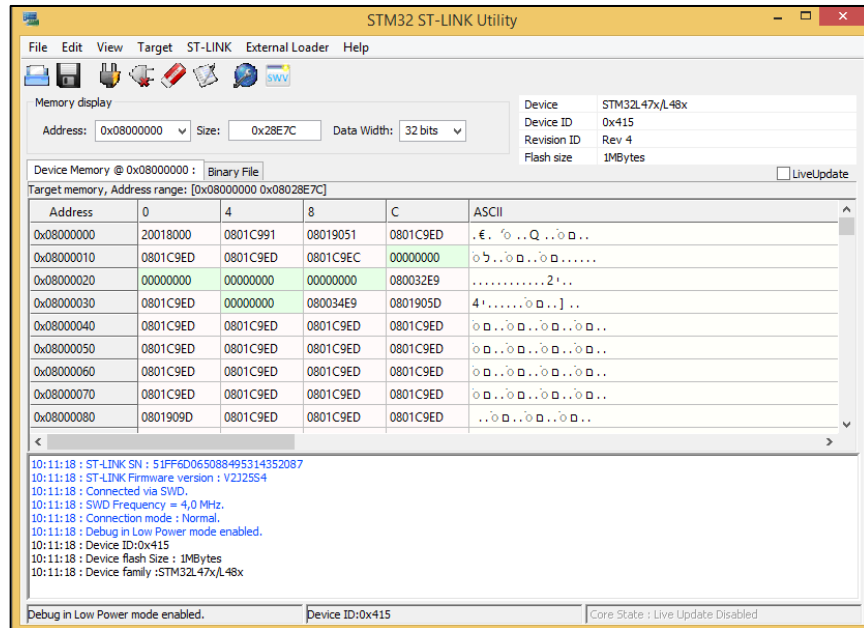

Figure 31. Connecting to System with STM32 ST-LINK Utility
8. When the connection is established, the following message is shown: **'Connected via SWD'** (Figure 31).